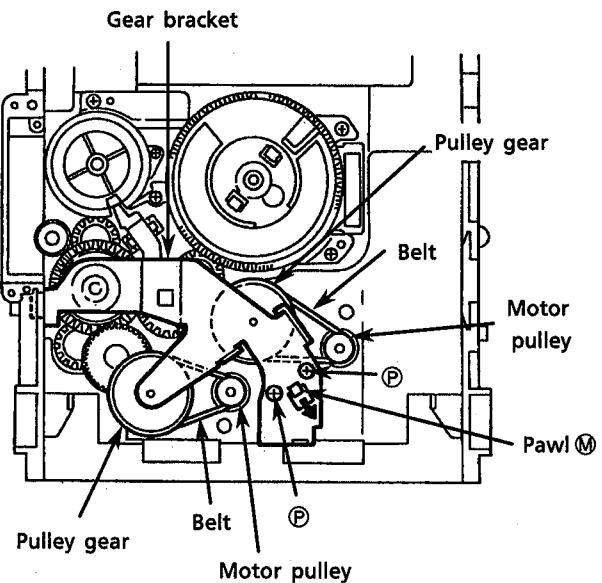

Fig. 44
1. Remove 2 screws ⑩ securing the gear bracket. (See Fig. 44.)
2. Press the pawl ⑪ securing the gear bracket to the arrow in the figure to remove the gear bracket. (See Fig. 44.)
4. Remove each belts from the both actuator motor pulleys and the pulley gears. (See Fig. 44.)